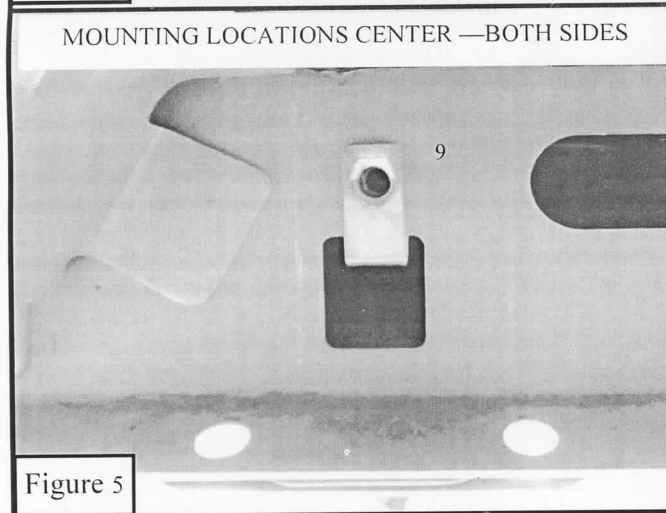

Figure 5
- For **09-14 Super Crew p/n 57-53525**, the center brackets will mount only using (1) M8 nut clip (item 9). **Figure 5.**